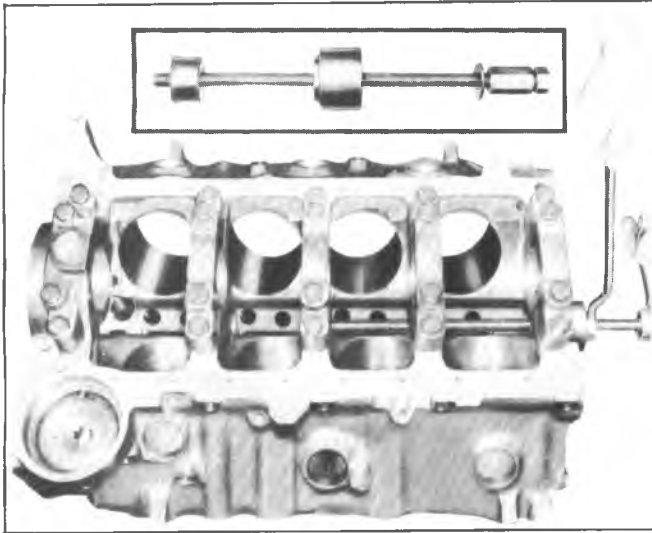

Fig. 6A5-38--Removing Camshaft Bearings
4. Using two wrenches, hold puller screw while turning nut. When bearing has been pulled from bore, remove remover and installer tool and bearing from puller screw (fig. 6A5-38).